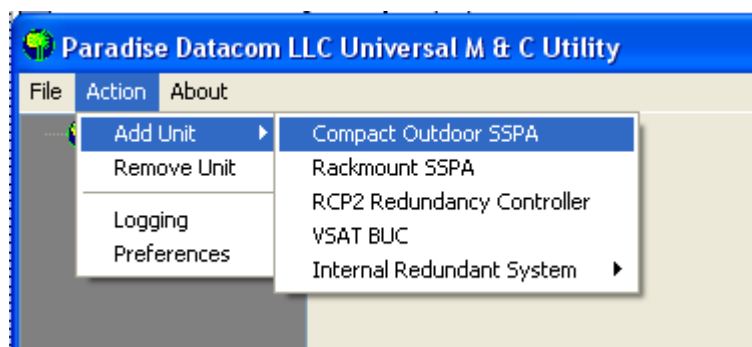

Figure 3-1: Universal M&C Add Unit menu
- Select [Action] 7 [Add Unit] from the main menu of the Universal M&C Program and select [Compact Outdoor SSPA] from the menu choices. See Figure 3-1.